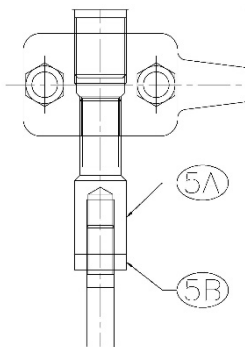

Fig. 12A.
When installed on a Hammel Dahl control valve, the stem 5 will include a stem adapter as shown in Fig. 12A. When valve maintenance is required, remove the stem adapter 5A and hex jam nut 5B.
- When installed on a Hammel Dahl control valve, the stem 5 will require a stem adapter as shown in Fig. 12A. Prior to installing the stem connector, install the stem adapter and locking nut.